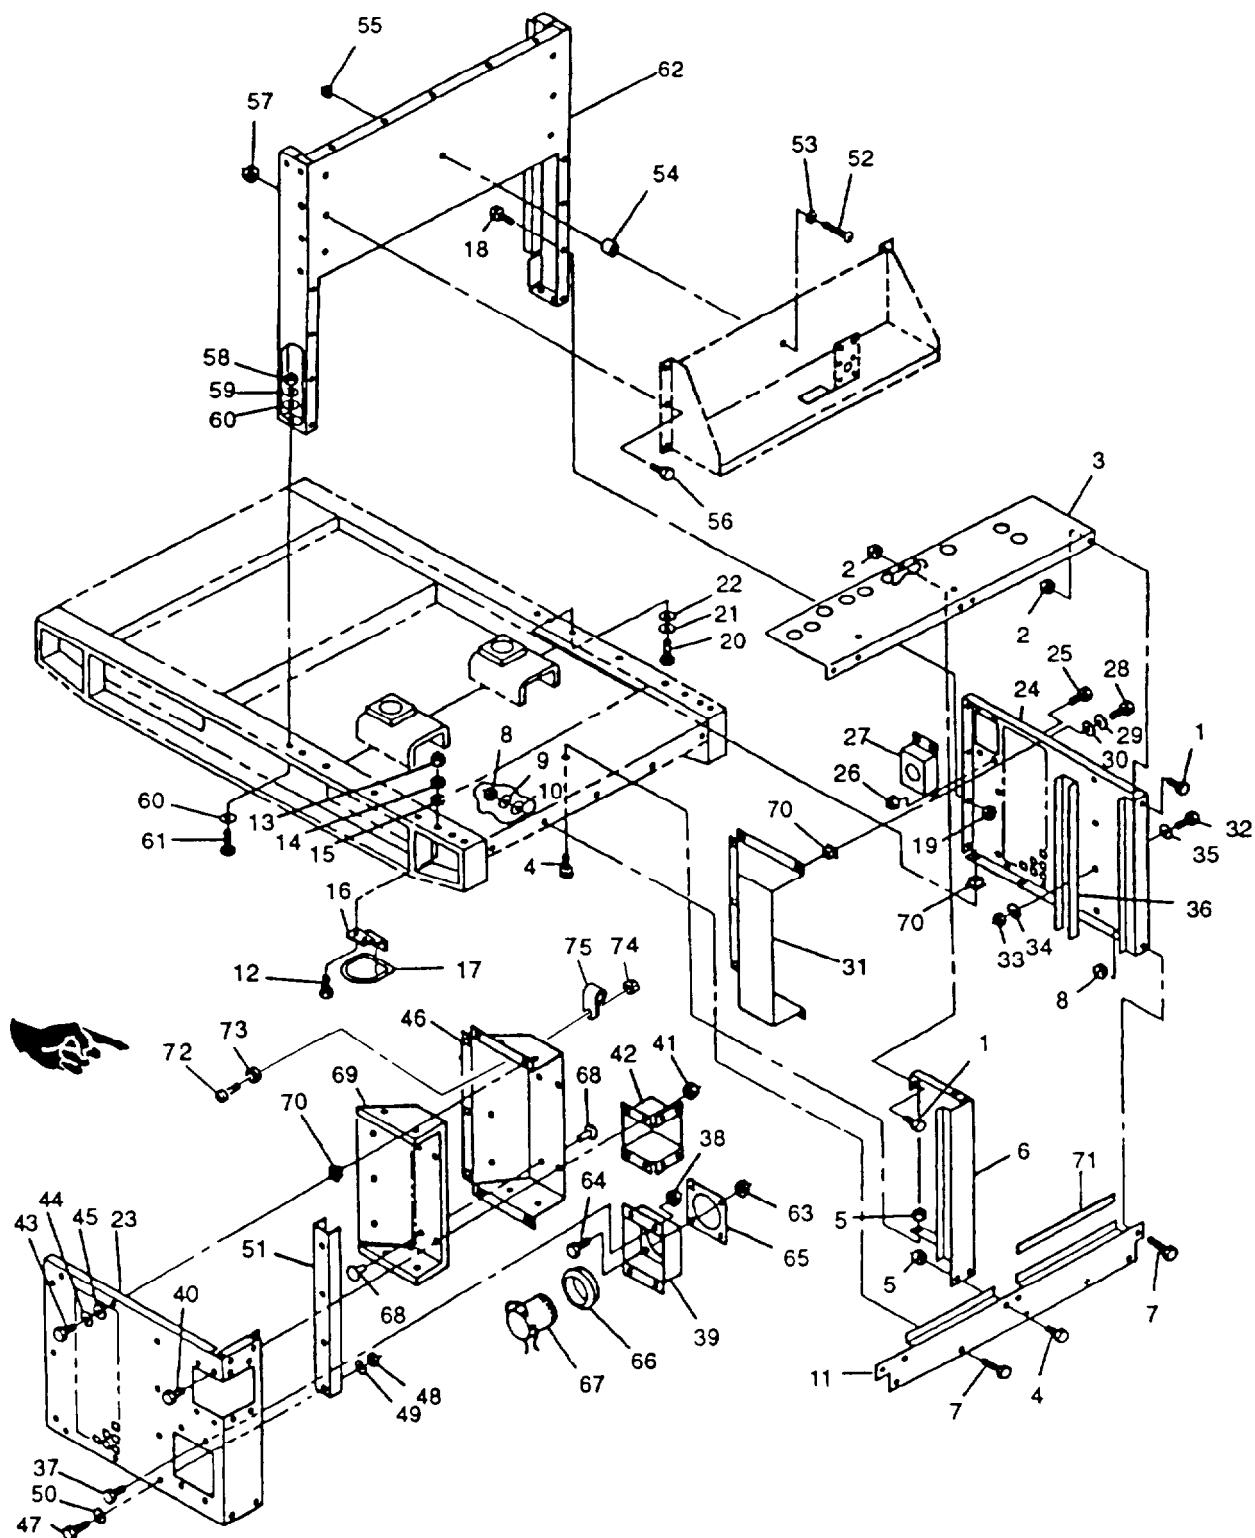

FIGURE 2-9. Generator Set Rear Housing Section
- n. Remove bolts (1, FIGURE 2-9), nuts (2), and upper door sill (3).
- o. Remove bolts (4), nuts (5), and center door post (6).
- p. Remove bolts (7), nuts (8), lockwashers (9), washers (10), and lower door sill (11)
- q. Remove bolts (12), nuts (13) lockwashers (14) washers (15), rear lifting rings brackets (16), and lifting rings (17).
- r. Remove bolts (18) and nuts (19), four places each side.
- s. Remove bolts (20), lockwashers (21), washers (22), and rear side panels (23) and (24).
- t. Remove bolts (25), nuts (26), and slave receptacle box (27) from side panel (24).
- u. Remove bolts (28), lockwashers (29), washers (30), and deflector (31) from side panel (24).
- v. Remove bolts (32), nuts (33), lockwashers (34), washers (35), and stiffener (36) from side panel (24).
- w. Remove bolts (37), nuts (38), and load entrance box assembly (39) from side panel (23).
- x. Remove bolts (40), nuts (41), and frequency control cable box (42) from side panel (23).
- y. Remove nut (74), bolt (72). washer (73), power cable clamp (75) from deflector (46).
- z. Remove bolts (43), lockwashers (44), washers (45), and deflector (46) from side panel (23)
- aa. Remove bolts (47) nuts (48), lockwashers (49), washers (50), and stiffener (51) from side panel (23)
- ab. Remove bolts (52) and (56), nuts (55) and (57), washer (53), and spacer (54) securing output box assembly to center housing panel (62). Carefully lay output box assembly on generator.
- ac. Remove nuts (58) lockwashers (59) washers (60) bolts (61), and center housing panel (62) from generator set.
- ad. If necessary, remove nuts (63) and bolts (64) and disassemble gasket (65), ring (66), and sleeve (67) from load entrance box (39).
- ae. If necessary, remove clip halves (68) and sound insulation (69) from deflectors (46) and (31).
- c. Inspect for missing or damaged cage nuts (70, FIGURE 2-9).
- d. Inspect door seals (71) for looseness and damage.
- e. Inspect sound insulation (69) for damage and missing clip halves (68)
- a. Install center housing panel (62, FIGURE 2-9) on generator set with bolts (61), washers (60), lockwashers (59), and nuts (58).
- b Secure output box assembly to center housing panel (62) with bolts (52) and (56), nuts (55) and (57), washer (53). and spacer (54).
- c. Install stiffener (51) on side panel (23) with bolts (47), washers (50), lockwashers (49), and nuts (48).
- d. If removed, install sound insulation (69) on deflectors (46) and (31) and clip halves (68).
- e. Install deflector (46) on side panel (23) with bolts (43), lockwashers (44), and washers (45).
- f. Install power cable clamp (75) onto deflector (46) with bolt (72), washer (73), and nut (74).
- g. Install frequency control cable box (42) on side panel (23) with bolts (40) and nuts (41).
- h. If removed, install sleeve (67), ring (66), gasket (65), nuts (63), and bolts (64) to load entrance box (39).
- i. Install load entrance box assembly (39) on side panel (23) with bolts (37) and nuts (38).